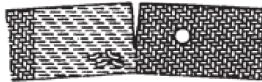

Figure 2
- Broken or worn stitching in load bearing sew patterns. Figure 2.